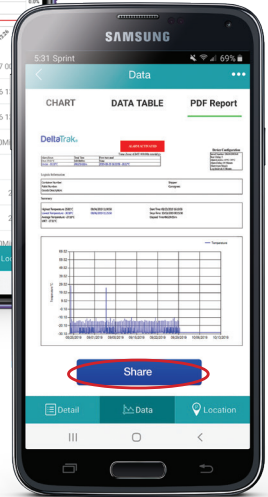

Figure 7
- B. After you see the report on the screen, select Share (Figure 7).